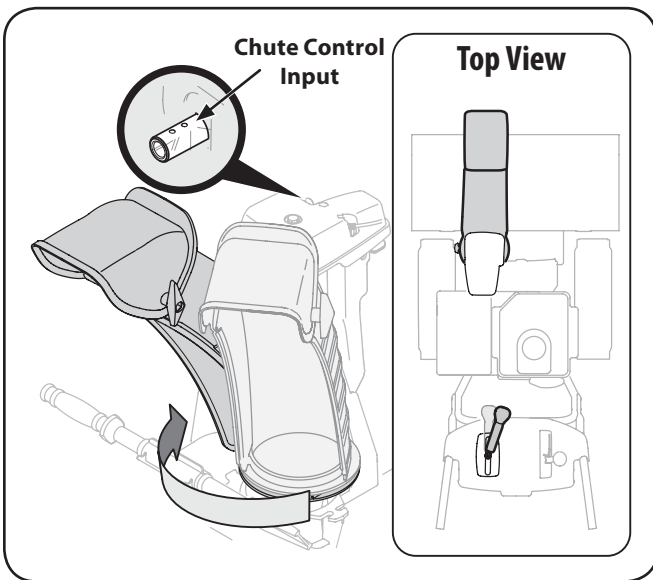

Figure 3-9
- Squeeze the trigger on the joystick and rotate the chute by hand to face forward. The holes in the chute control input will be facing up. See Fig. 3-9.
**NOTE:** The joystick will be angled slightly to the right at the one o'clock position. See "Top View" in Fig. 3-9.